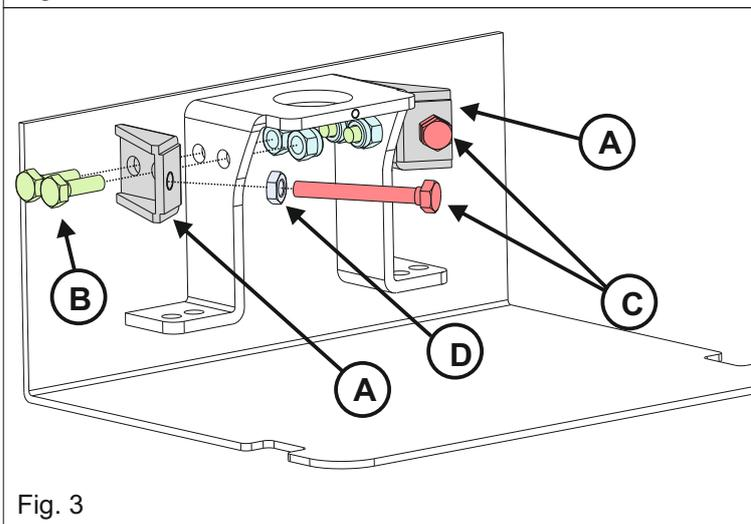
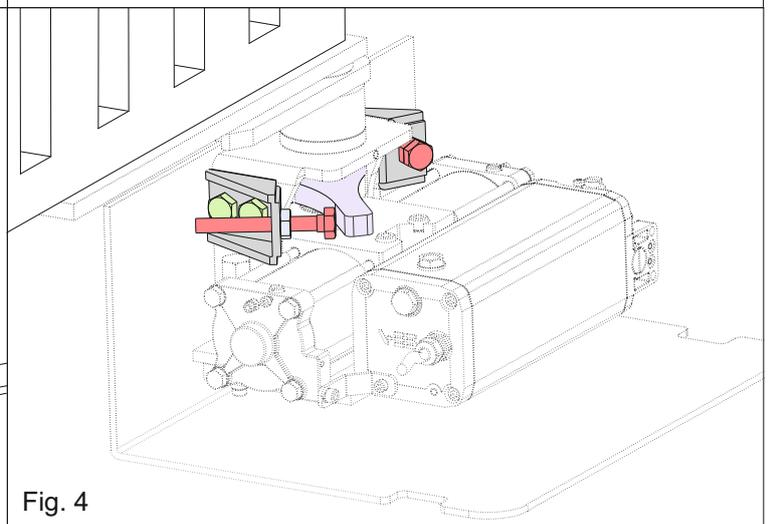

Fig. 3
Fig. 4
3. Insert the two «stop screws» «C» into the special housings on the stop supports, using the bolts «D» as shown in (Fig. 3 and Fig. 4)